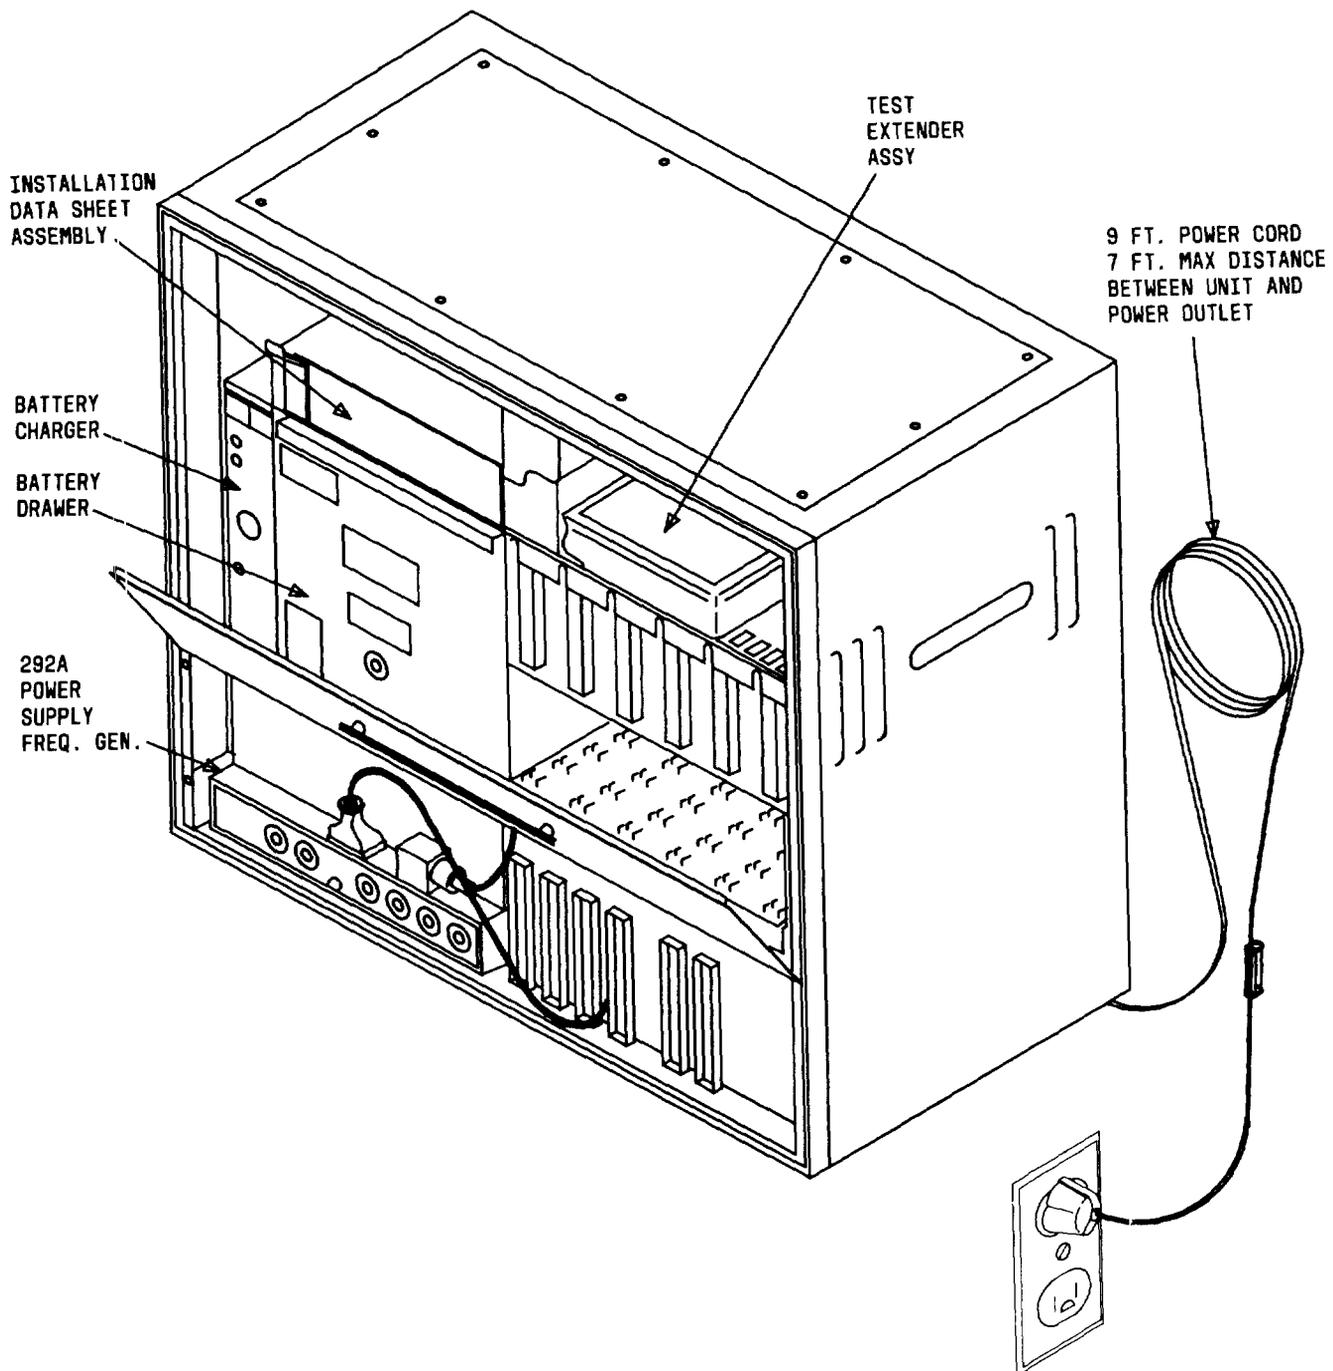

Fig. 1—J99400F Housing Assembly
2.02 The J99400F assembly shown in Fig. 1 will accommodate up to six MFT circuits in a single module arrangement. The MFT mounting shelf is located behind the hinged smoked-gray plastic door on the top portion of the assembly. Also located behind this door is the J99400AD battery charger and the J99400AE battery drawer. Space is provided above the battery drawer for convenient storage of the installation data sheet assembly, ED-7C223-G5. Space is provided above the MFT shelf for storage of the J99400TA test extender. The plastic door is held in the closed position by magnetic strips located on each side of the door.
2.06 The 292A power supply/frequency generator will accept 117 Vac commercial power input and supplies four -48 Vdc outputs (-48 A, B, C, and D) and 20-Hz ringing to the MFT mounting shelf. The -48 Vdc outputs provide power to the mounting shelf as shown in Fig. 1. Each of the -48 Vdc outputs has a current capacity of 0.5 amperes for a total power supply current output of 2.0 amperes. Each of the four -48 Vdc outputs is protected by 1.75 ampere circuit breaker. The 20-Hz ringing output is capable of ringing up to nine phones simultaneously and is protected with a 1.0 ampere circuit breaker. The 117 Vac input is protected with a 1.75 ampere circuit breaker. The circuit breakers mentioned, as well as "power on" indicator, are visible with the housing front panel in position. If these circuit breakers should trip, the white center button will extend. The circuit breakers are reset by pushing this center button.
2.10 The J99400AE battery drawer is intended for use with the J99400F housing assembly. It provides approximately 4 hours of battery reserve power. The battery drawer is located in the MFT shelf to the left of the MFT plug-in slots as shown in Fig. 1.
2.12 This assembly contains installation instructions for the J99400F housing assembly. The data sheets are packaged on an MFT circuit pack frame and may be stored above the mounting shelf as shown in Fig. 1 or in an empty plug-in slot. This assembly consists of an MFT card holder frame and shield with an attached 2-ring, loose-leaf binder. More detailed installation information can be found in Section 332-610-205.